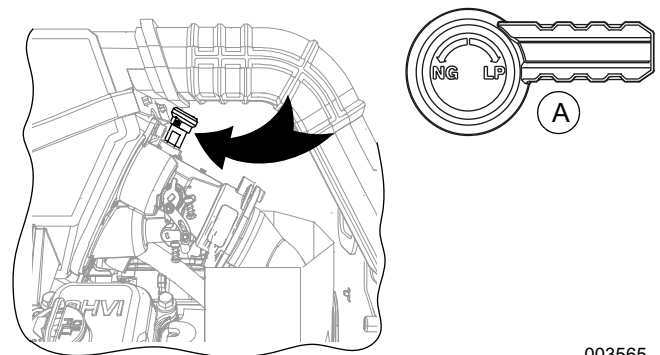

Figure 5-1. Fuel Conversion Knob Location
See Figure 5-1. Converting from natural gas configuration to LP vapor can be accomplished with the following procedure. The orange fuel conversion knob (A) is located above the fuel mixer.